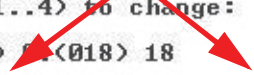

Figure 4-20 Assigning Gateway IP Address
13. Type **Y** to set the Gateway IP address. Type the Gateway IP address and press **Enter**. See Figure 4-20.